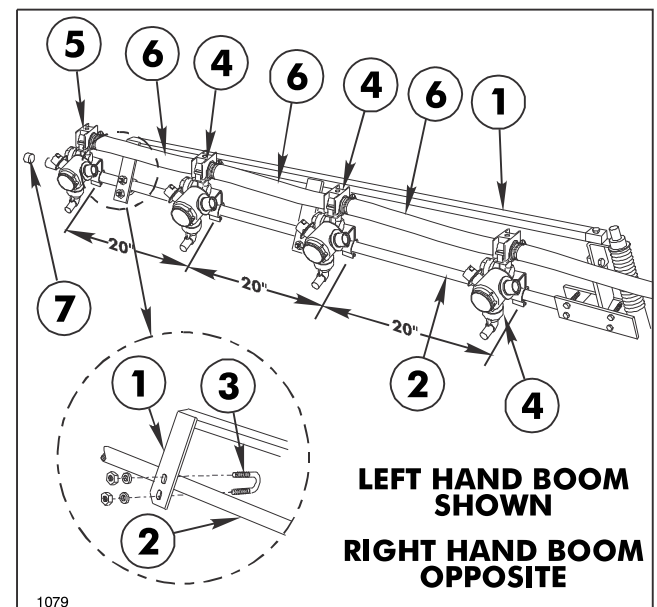

FIG. 12
12. Secure the two plates of the Boom Support Assembly to the Extension Boom Pipe, using two (2) 1/4" U-bolts, four (4) lock nuts and four (4) flat washers. See FIG. 12.
15. Attach three double barb and one single barb Turret Assemblies on each Extension Boom Pipe as shown in FIG 12. Turret Assemblies are to be level and spaced on 20" centers. Connect the Turret Assemblies with the 3/4" x 19" Jumper Hoses. Secure with hose clamps. **NOTE: Two jumper hoses provided with this kit are 21" long. They should be cut to 19" long for this set-up.**